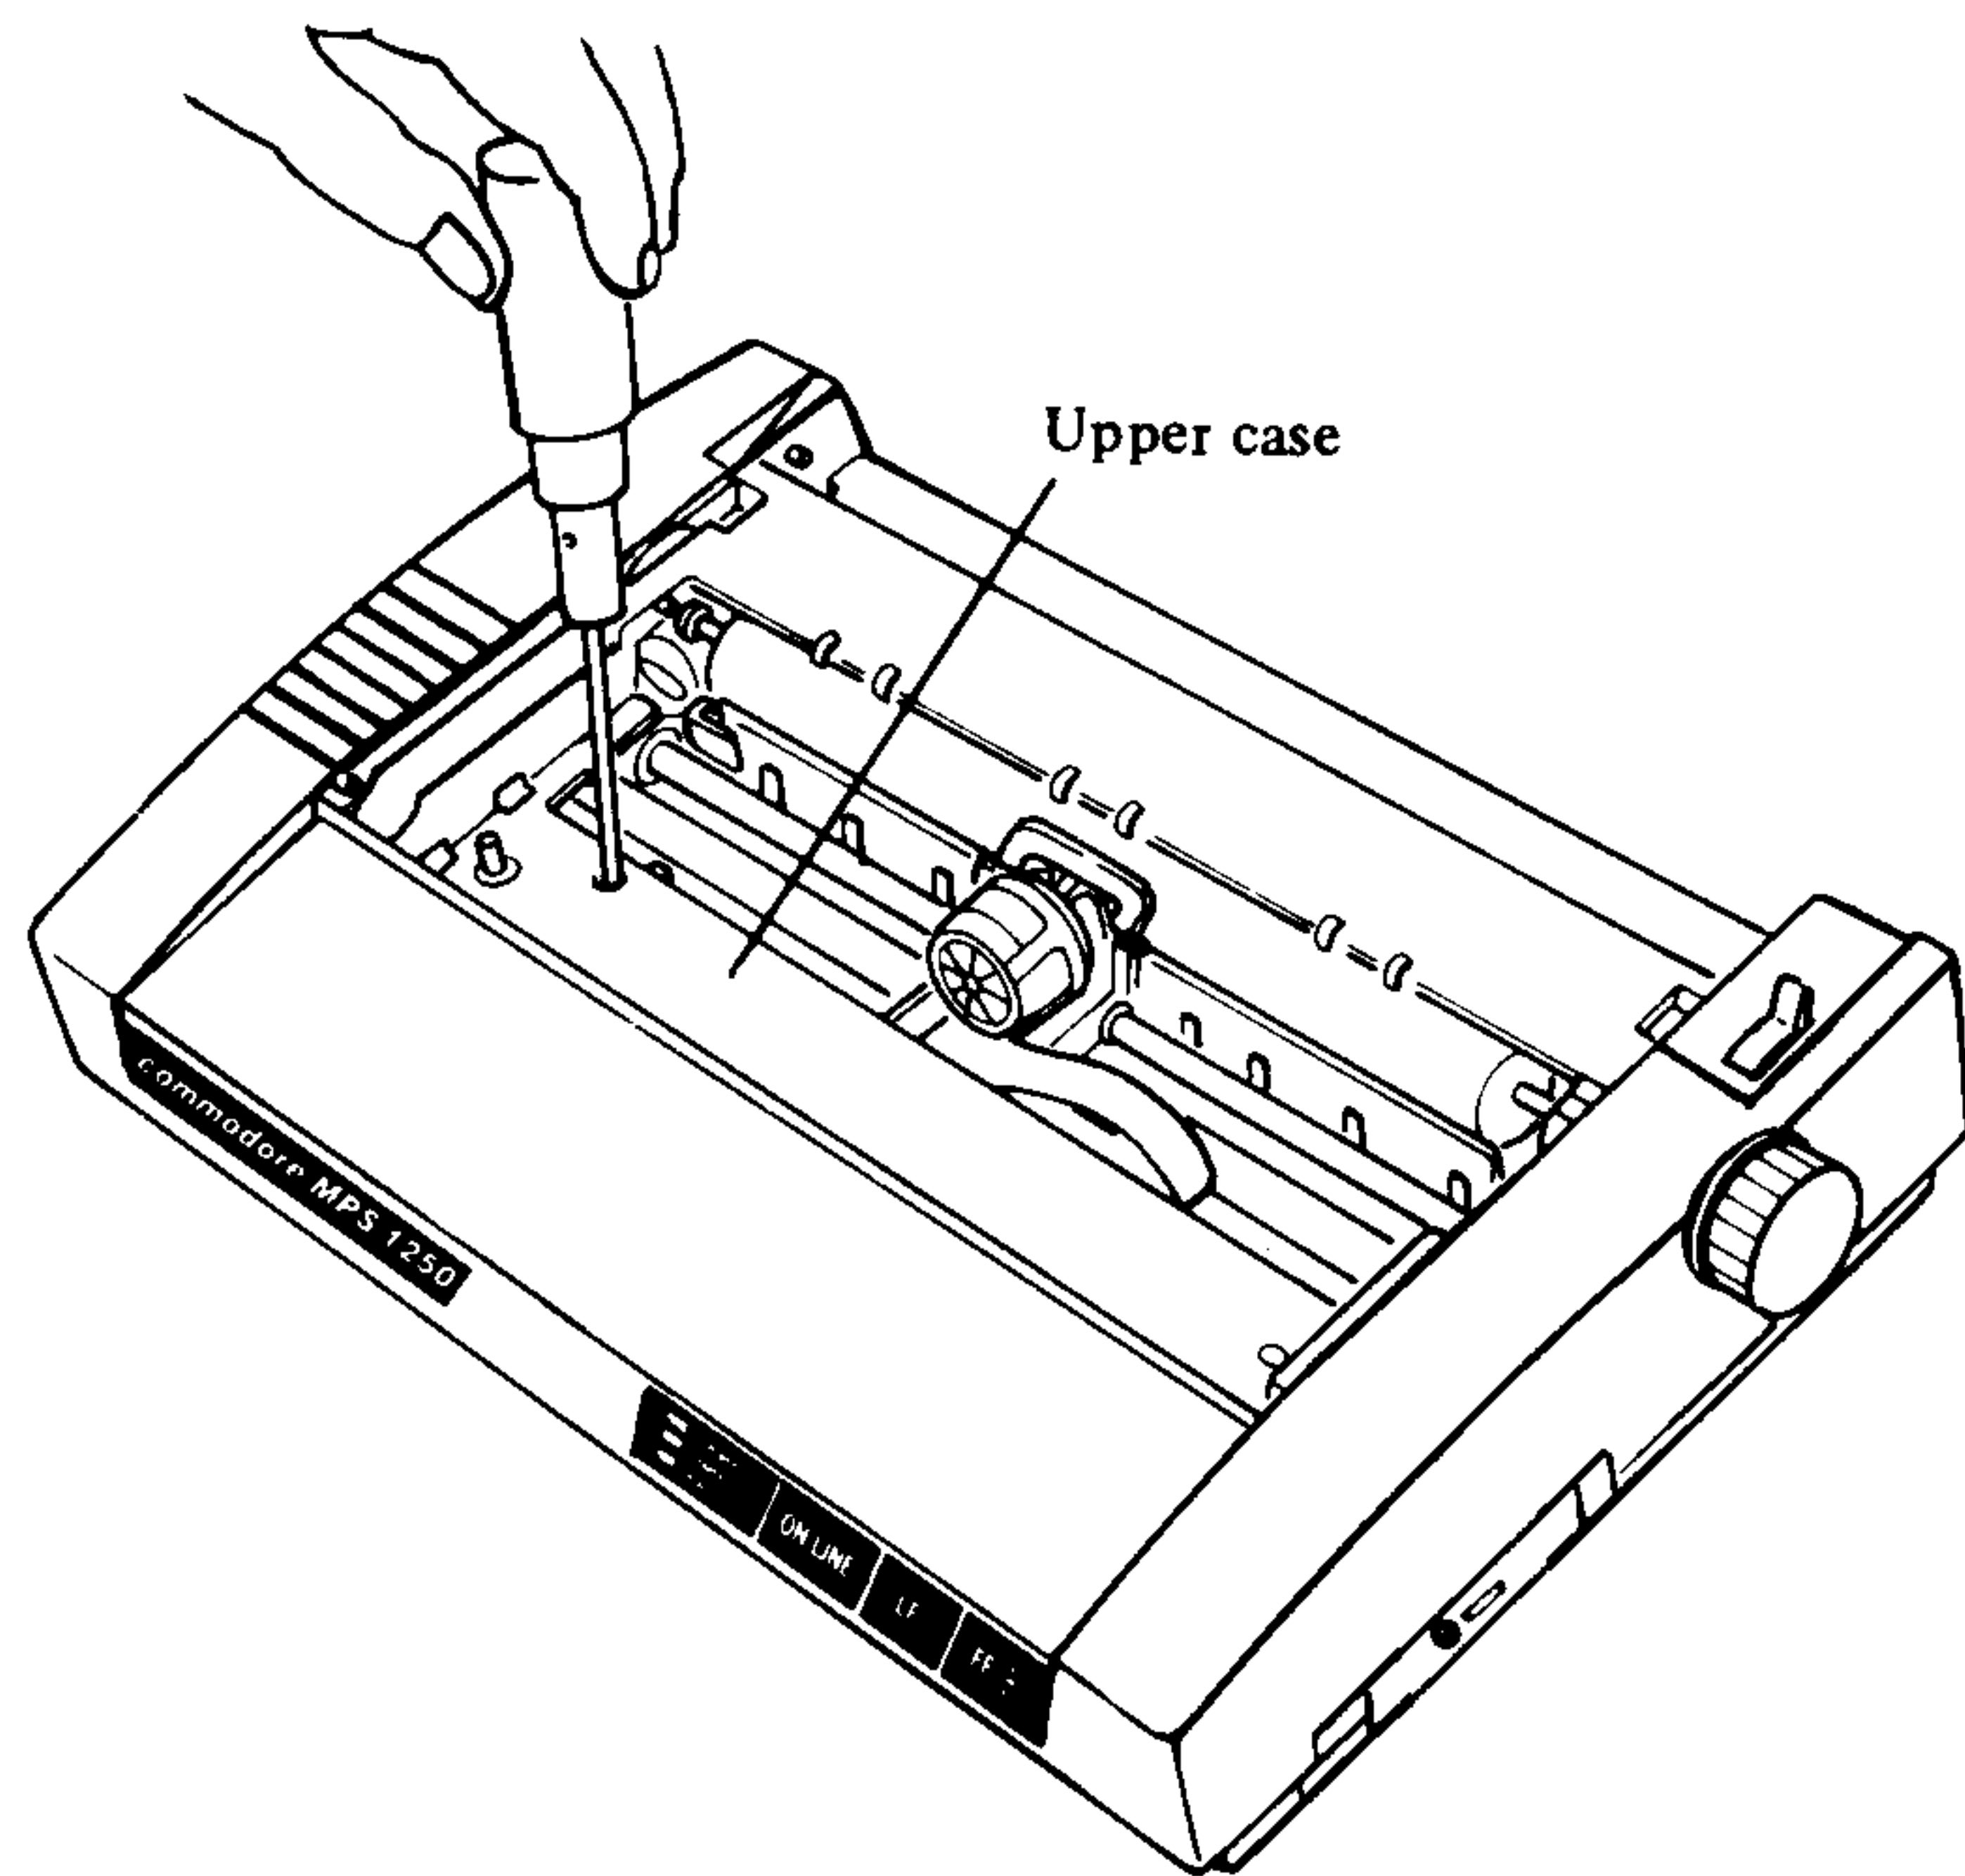

Figure A-1. Removing the upper case.
4. Remove the retaining screw that secures the upper case. It is located just above the MPS 1250 logo where the ribbon cartridge sits (see Figure A-1).